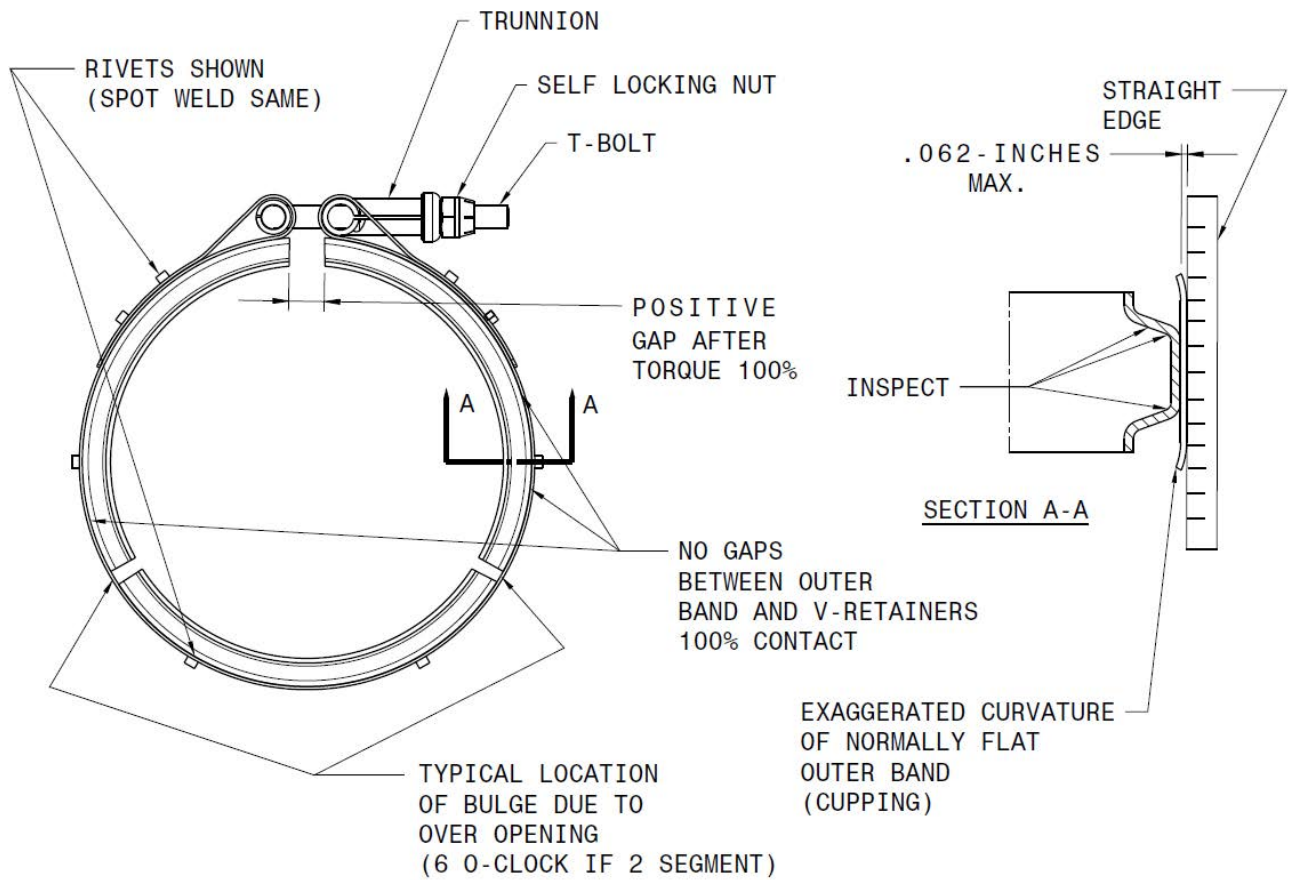

Figure 14
- n. After a coupling/clamp is installed/reinstalled and fully torqued, verify there is space between each V-retainer coupling segment, or verify there is space between both ends of a clamp. If there is no space between the V-retainer segment ends or clamp ends, a new coupling/clamp should be installed prior to further flight. Refer to Figures 14 & 16.
- c. Visually inspect the coupling outer band for flatness using a straight edge. Lay the straight edge across the width of the outer band. The gap between the straight edge and the band must be less than 0.062 inches. Refer to Figure 14.
- d. With the T-bolt in the 12 o'clock position, visually inspect the coupling for the attachment of the outer band to the V-retainer coupling segments. Inspect for gaps between the outer band and the V-retainer coupling segments at or in between any spot-weld or rivet that holds the outer band to the V-retainers. Placing the light source on the backside of the coupling may make this assessment easier. Refer to Figure 14 & 15.
- e. Visually inspect the interior of the coupling V-retainers and the single-piece clamp V-band for indications of the exhaust flanges bottoming out in the V-apex of either. Refer to Figures 14, 16 & 25.
- f. Visually inspect the inner bend radii of the coupling V-retainer segments or clamp V-band for cracks. Inspect the radii throughout the length of the segments and clamp. Back-lighting may assist here. Refer to Figures 14, 16 & 25-27.
- g. Visually inspect the outer band and the V-retainer ends of a coupling or the V-band of any clamp opposite the bolt location (6 o'clock) for physical damage (i.e. distortion, creases, bulging, or cracks). Refer to Figures 14 & 16.
- b. Cupping, bowing or crowning of the coupling outer band beyond 0.062 inches in depth. Refer to Figures 14, 19, 20 & 22.
- c. Crack in any coupling V-retainer segment interior or exterior surface, e.g. at corner radii. Refer to Figures 14 & 25.
- d. Looseness, separation of the outer band to V-retainer segment(s) at any spot-weld or rivet. Refer to Figures 14 & 15.
- e. Less than 100% contact (i.e. gaps) between the V-retainer segments and the outer band at or between spot-welds or rivets on a coupling. Refer to Figures 14.
- i. Contact of the V-retainer segments ends or clamp ends at any location (e.g. bolt area). Refer to Figures 14 & 16.
- n. Peening (flattening, curling) of material on the V-retainer segment ends or clamp ends from contact with each other, at any location (e.g. bolt area). Refer to Figures 14 & 16.